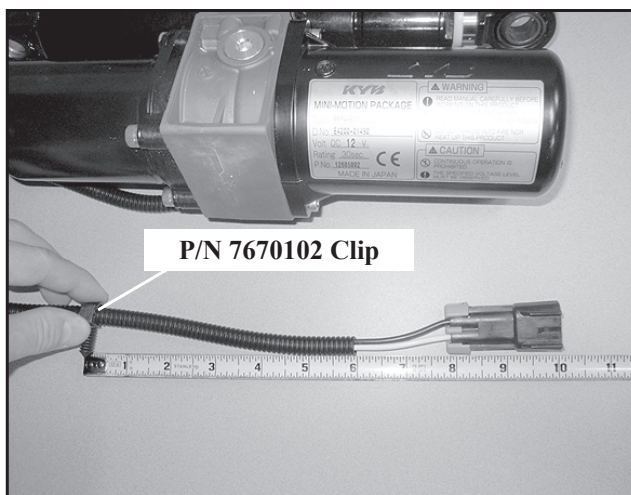

Figure 19
5. Install the P/N 7670102 routing clip (#6) to the harness of the P/N 2879221 lift cylinder 10" from the end of the plug as shown in *figure 19*.